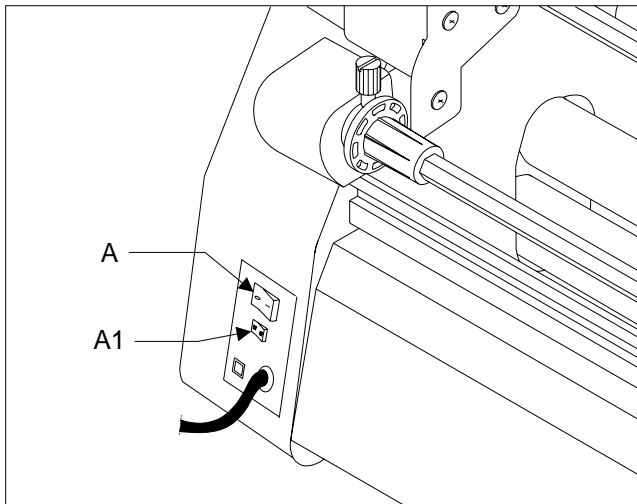

Fig. 1
A. POWER SWITCH: Fig. 1. Located at the back of the machine applies power to the laminator. The LED display panel will illuminate when position marked "I" is pushed. The off position, marked "O", removes power from the laminator.
A1.FAN SWITCH: Fig. 1. Located at the back of the machine applies power to the fans when position marked (⊠) is pushed. The off position marked (⊡) removes power from the fans.